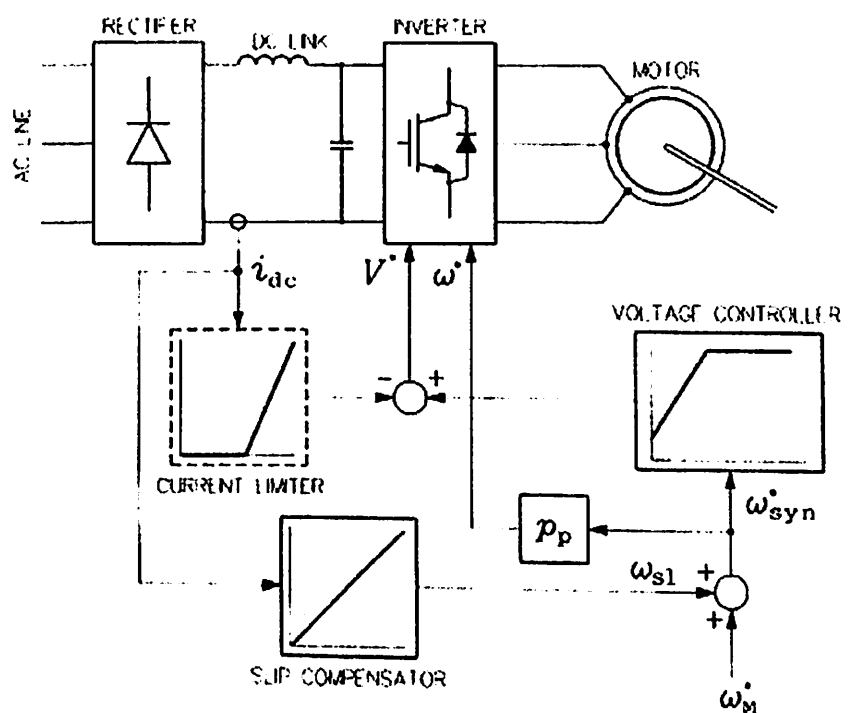

Figure 3: CVH drive system with slip compensation
- A CVH drive system with slip compensation is shown in Figure 3. Using this diagram briefly describe how CVH operation is achieved.